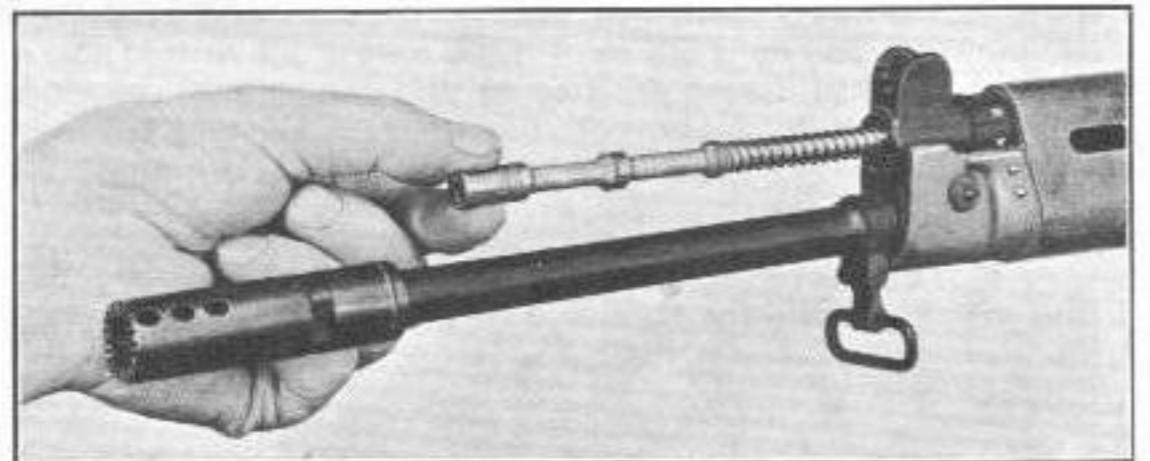

Fig. 45
f) Remove the piston and spring from the gas cylinder (fig. 45).